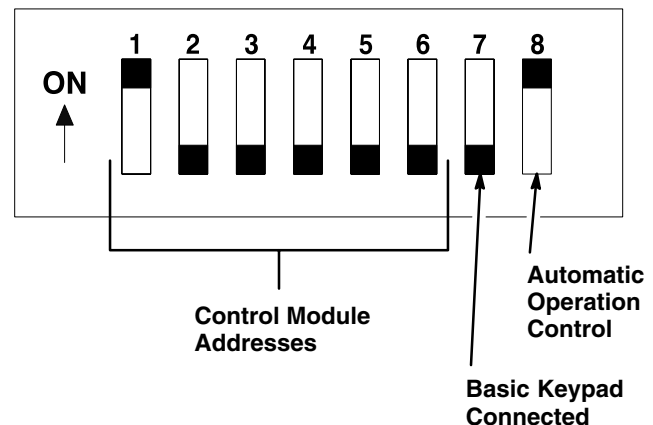

Fig. 1
- Refer to the Detail drawing of the DIP switches in Fig. 1.